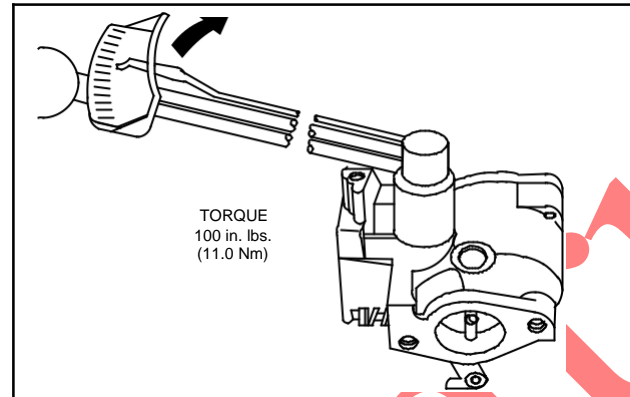

Fig. 40 – Install Fixed Main Jet
11. Install fixed main jet and plug or solenoid, or high speed mixture valve, if equipped, Fig. 40.